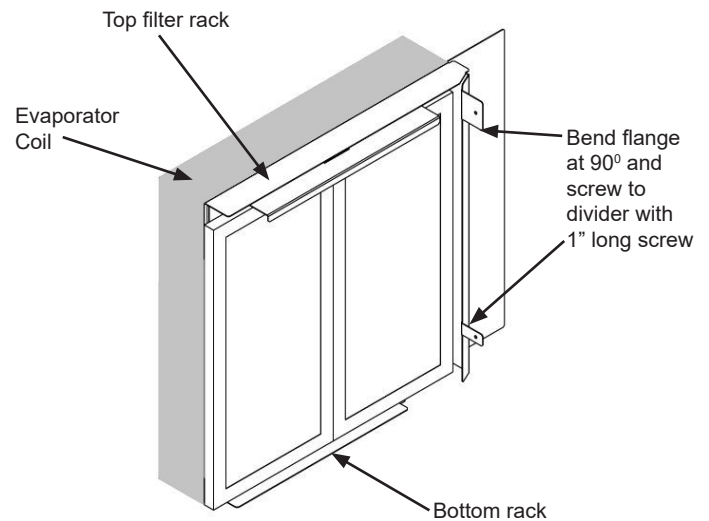

Fig. 1 - Filter Rack
4. Install the top filter rack in the HVAC unit next to the indoor coil. Bend flange by hand at 90 degrees - Fig.1. Screw left side of rack in to 4th hole down on coil frame. Use only 1/2" (12.7mm) long blunt end screws. Make sure the bracket is level and the right side of filter bracket is pushed back against the coil then screw bent flange to unit side panel using 1" long self-drilling screw provided. If using 2" (50.8mm) filter the filter spacer must be removed.
Install the bottom filter rack. Bend flange 90 degrees - Fig.1. Screw left side of rack to the coil frame. Use only 1/2" (12.7mm) long blunt end screws. Make sure the bracket is level and the right side of the filter bracket is pushed back against the coil then screw bent flange to unit side panel using 1" long self drilling screw.